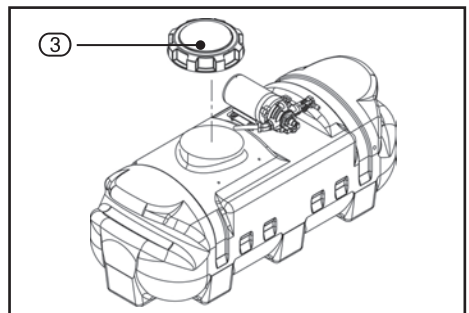

FIG. 14
Remove the fill cap ③ located on top of the sprayer (Fig. 14)